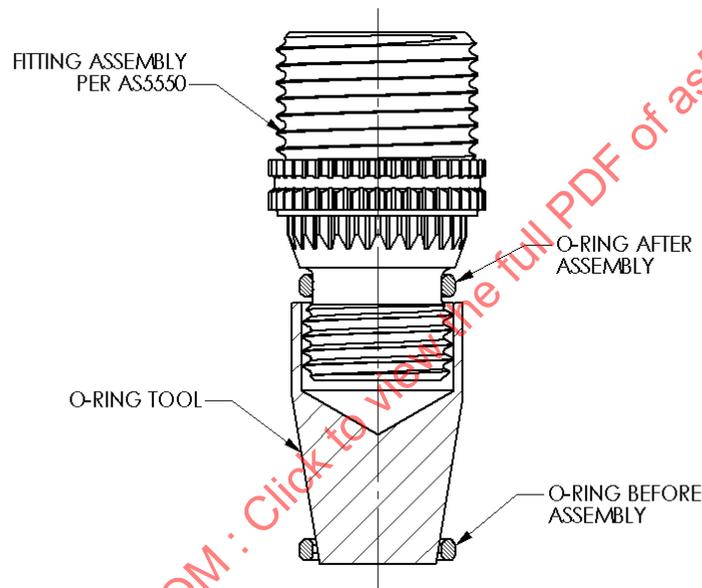

FIGURE 4 - O-ring Installation
- 6.1.1 Place the O-ring (per Table 1A) over the small thread of the fitting assembly. Submerge the O-ring tool and O-ring in the fluid to be used in the working system, or a lubricant compatible with the system fluid and all components. Slide the O-ring over the O-ring tool and onto the fitting assembly. Be sure that the O-ring is not twisted and is properly seated in the groove of the fitting assembly. See Figure 4.